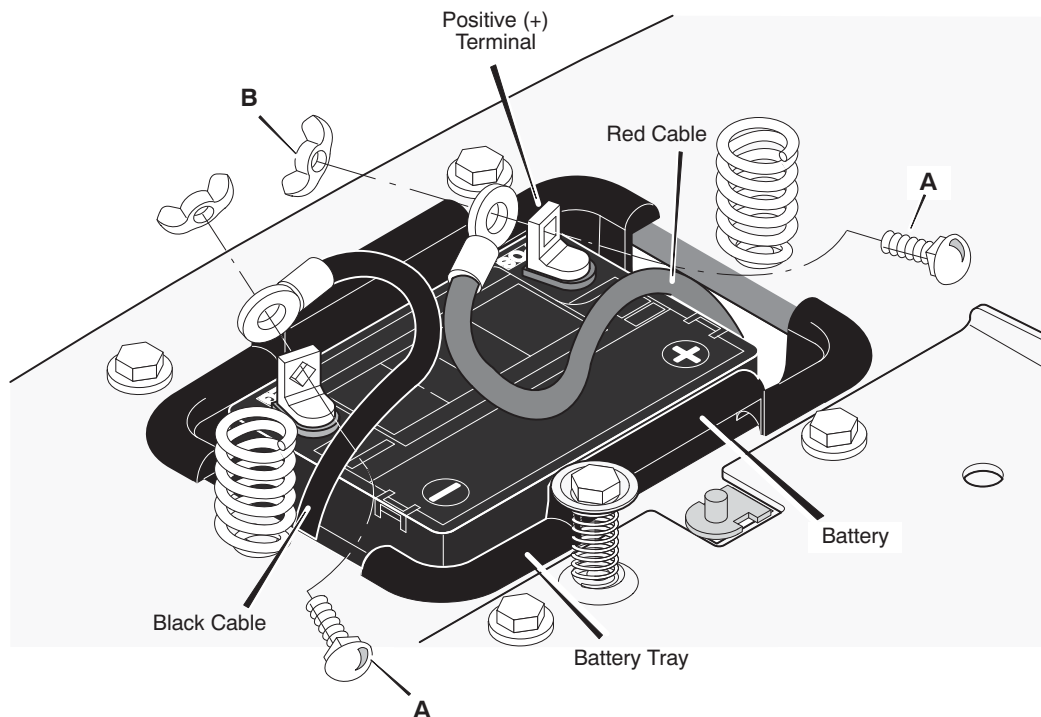

Figure 3
1. Check the top of the battery for the location of the **battery date** (Figure 3).
2. Fasten the **red cable** to the **positive (+)** terminal with the fasteners as shown (Figure 3).